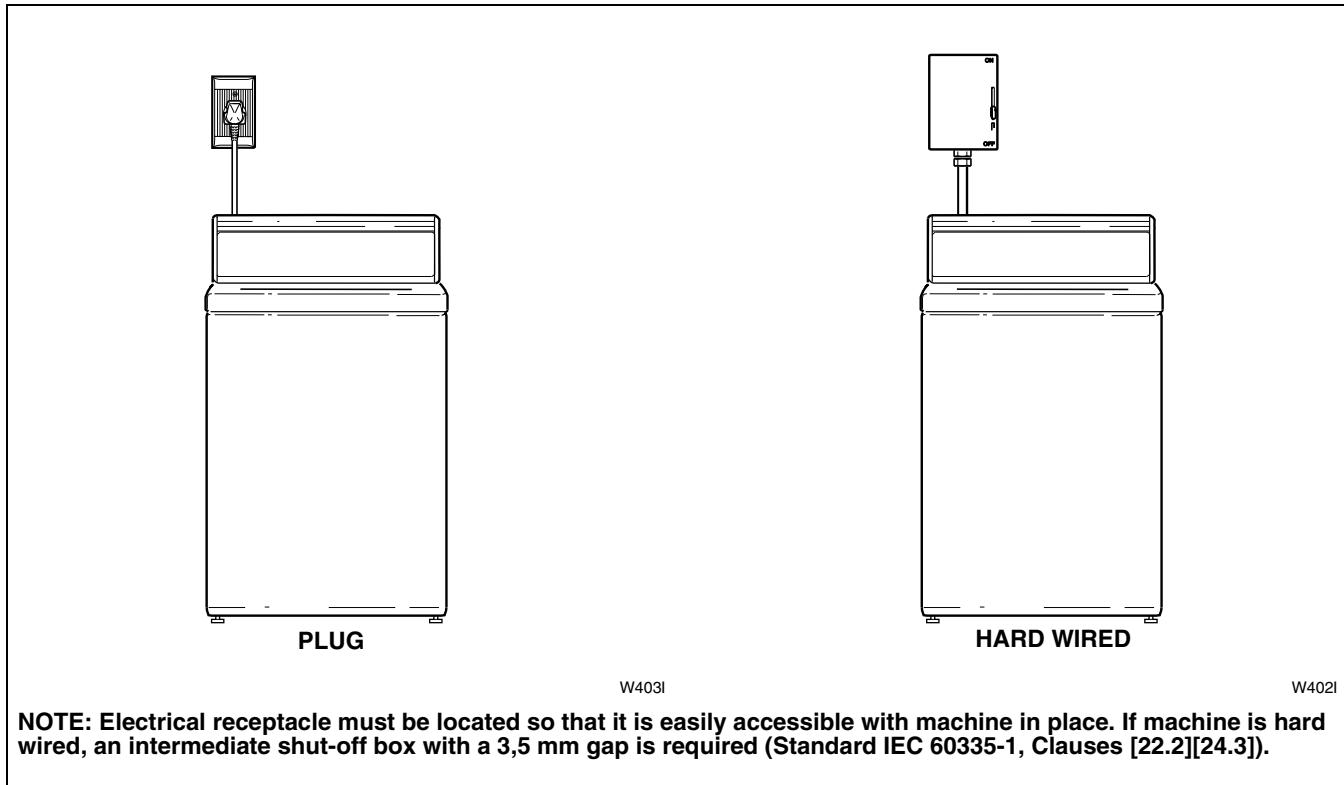

Figure 15
**NOTE:** Some models come without an electrical plug installed. If washer is not hard wired (refer to *Figure 15*), a suitable plug that meets local electrical standards, including earthing requirements, must be installed. Refer to the washer nameplate for proper voltage and Hertz the washer is designed to operate on. Refer to *Figure 51*.